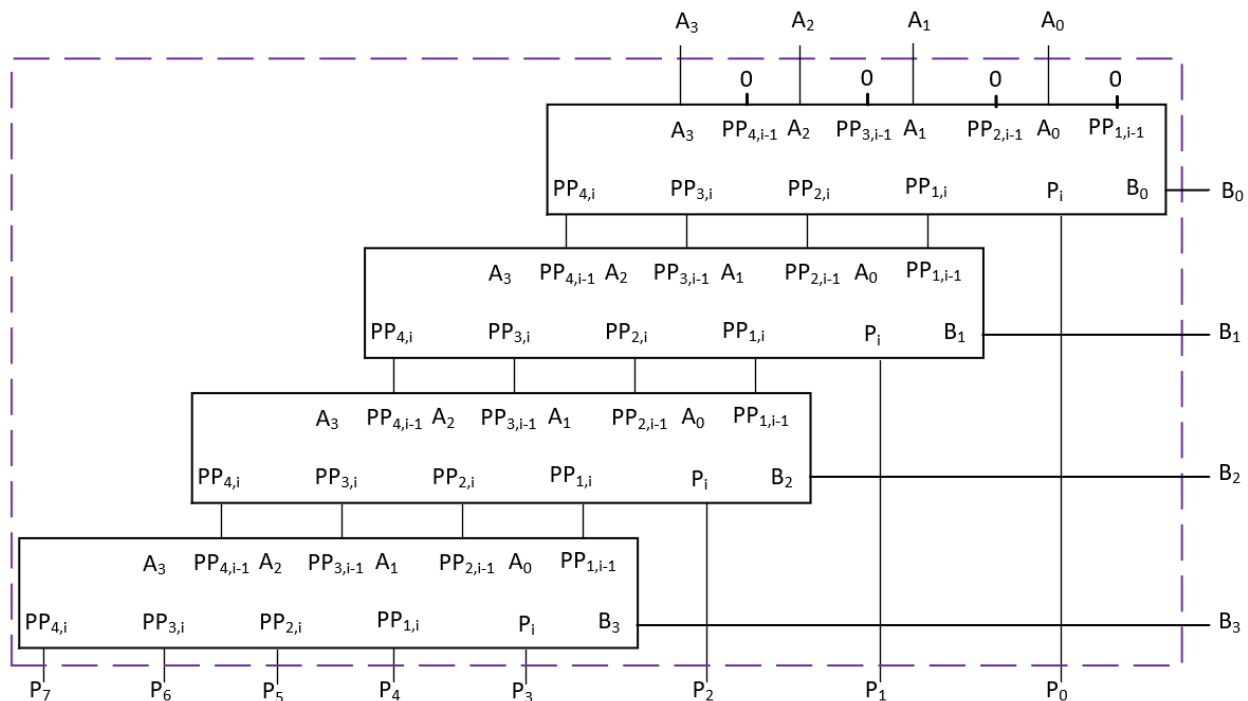

Figure 3: A 4-bit array multiplier that calculates  $A \times B = P$ , where  $A$  and  $B$  are 4-bits wide and  $P$  is 8-bits.
3.3 Create a second SV file named “mult4.sv” that contains one SV **module** named mult4. Using **structural** SV, connect four PP4 modules together to make a 4-bit array multiplier as shown in Fig. 3